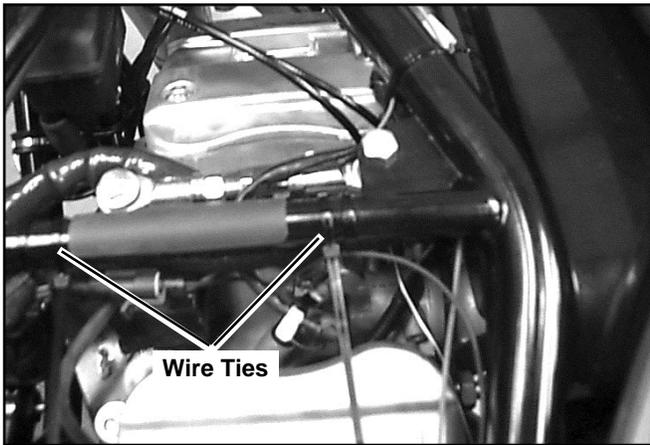

Figure 10.
18. Install wire ties to secure the harnesses at locations shown in Figures 10 and 11.